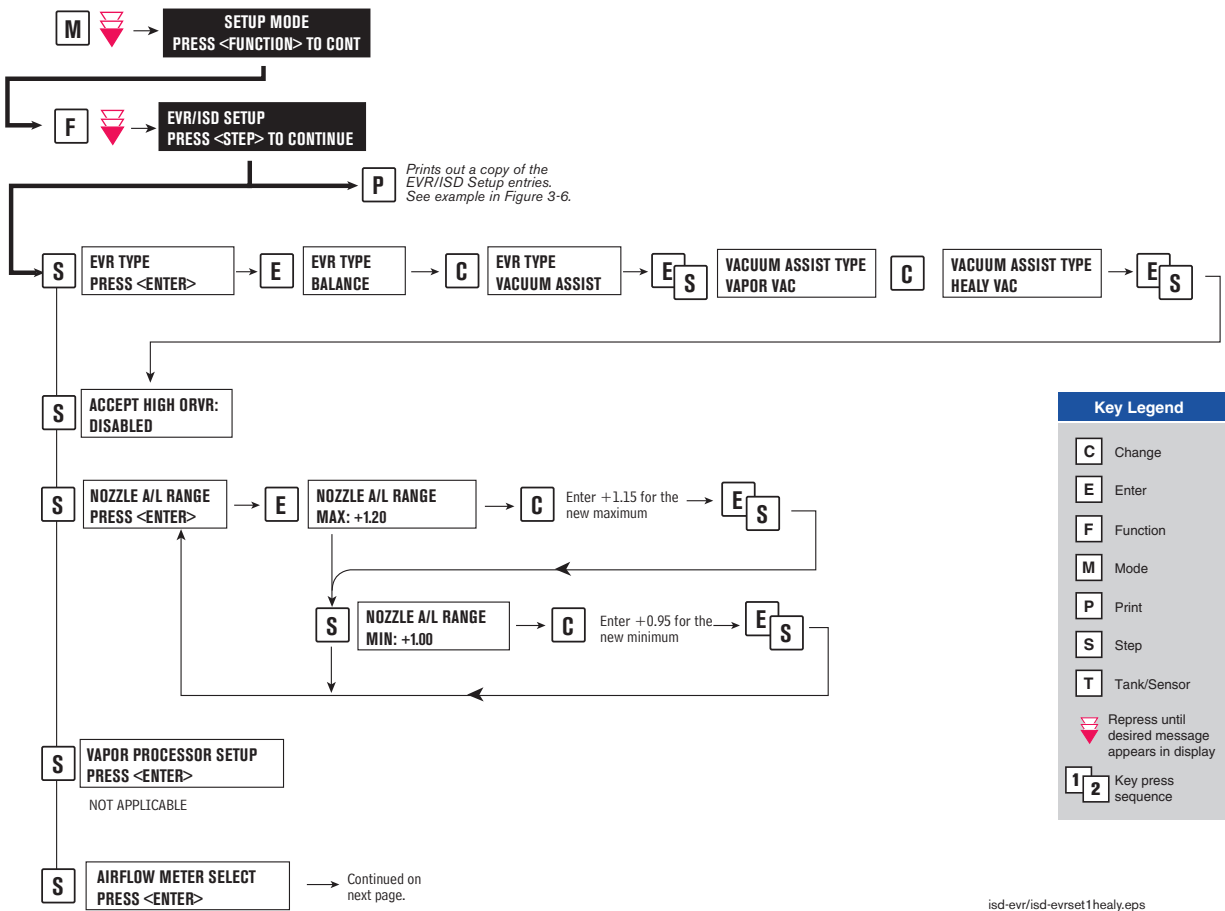
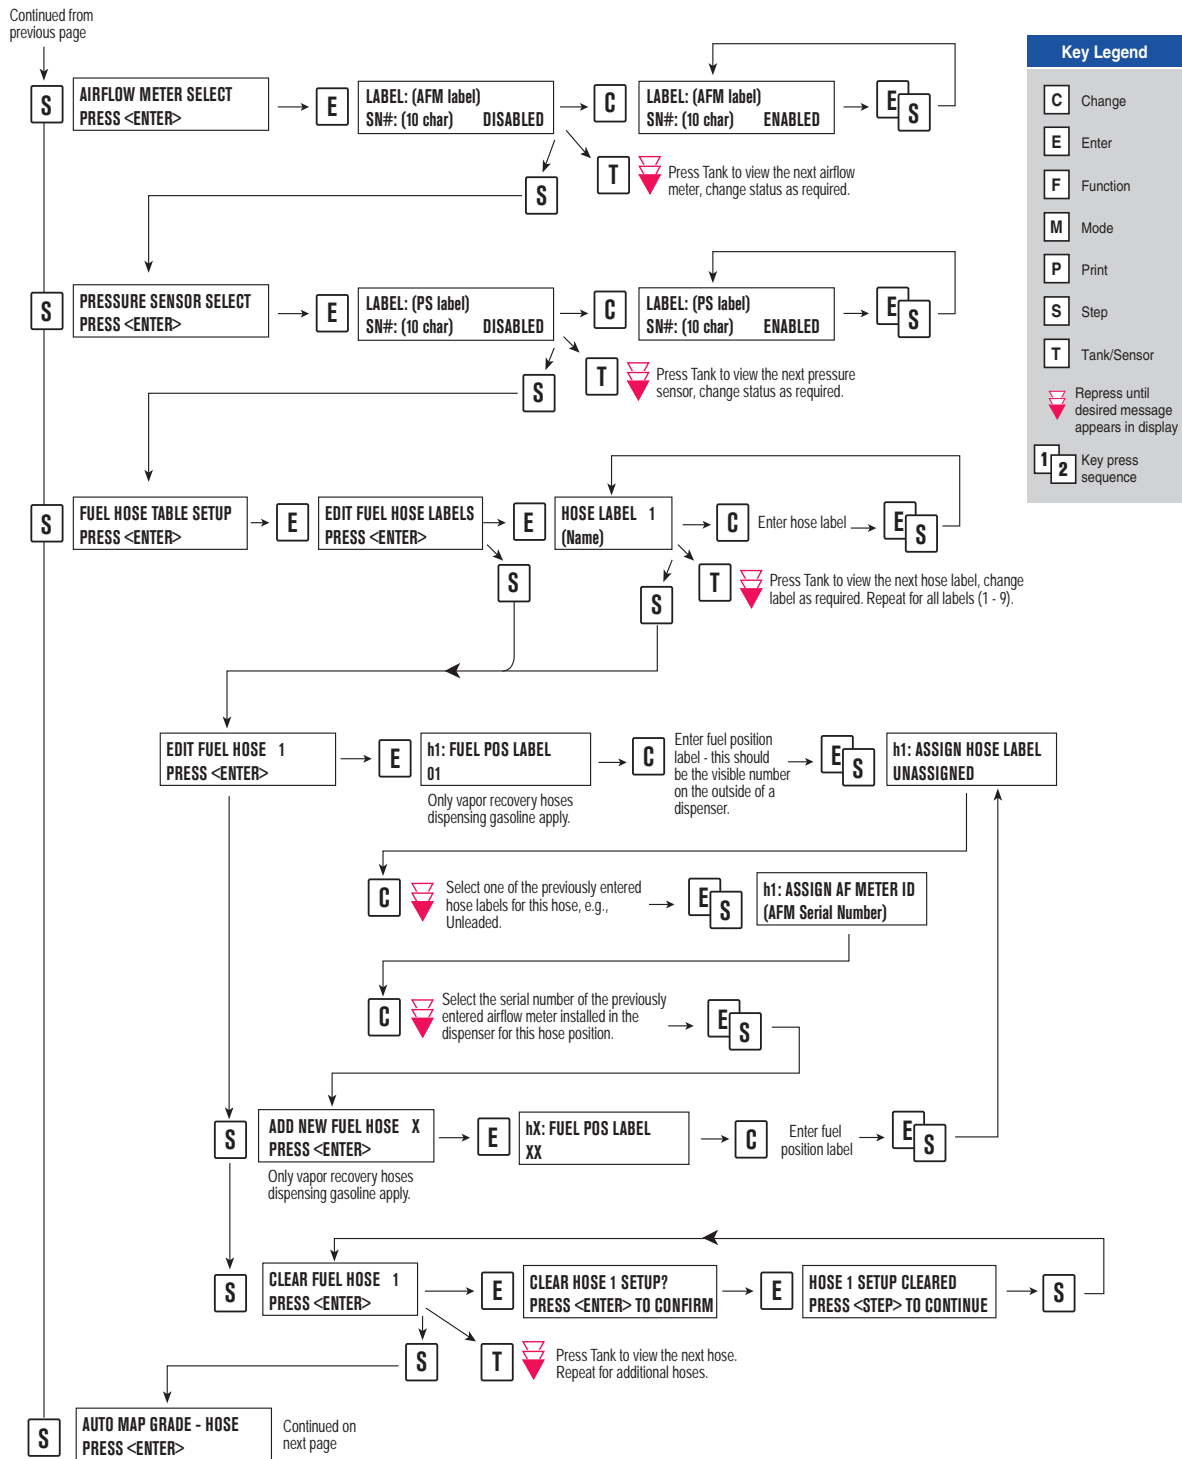
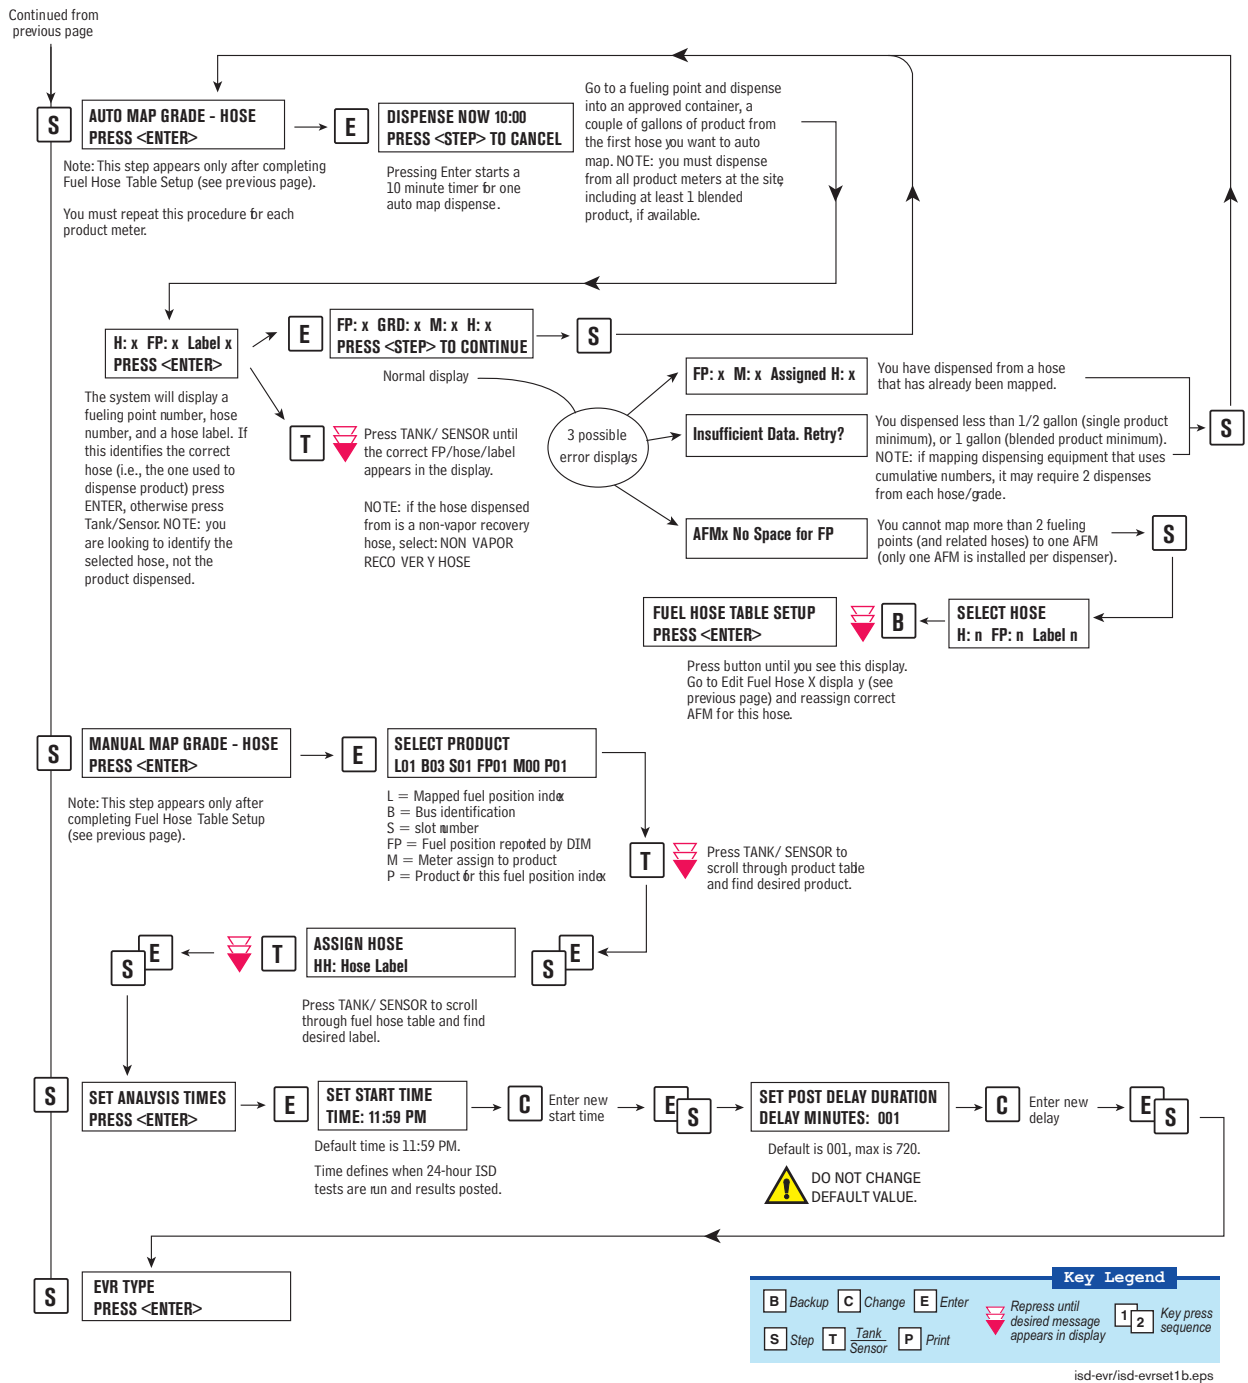

Figure 5. EVR/ISD Setup 1
Figure 6. EVR/ISD Setup 2
Figure 7. EVR/ISD Setup 3
- EVR/ISD Setup - All ISD sites - Figure 5, Figure 6, Figure 7
The next step in programming your system requires documentation of information from the ISD equipment installed at the facility. Choose the appropriate data sheet from Appendix A for the vapor recovery system installed at your facility. Record the unique information from the sensors prior to attempting the TLS EVR/ISD set up described in Figure 6. After you complete the TLS EVR/ISD you must perform the Product Meter ID set up procedure to complete the set up
Figure 5, Figure 6, and Figure 7 diagram the EVR/ISD setup programming. Start with the first figure, continue to the second, and finish in the third. Figure 8 shows an example printout of the EVR/ISD setup.